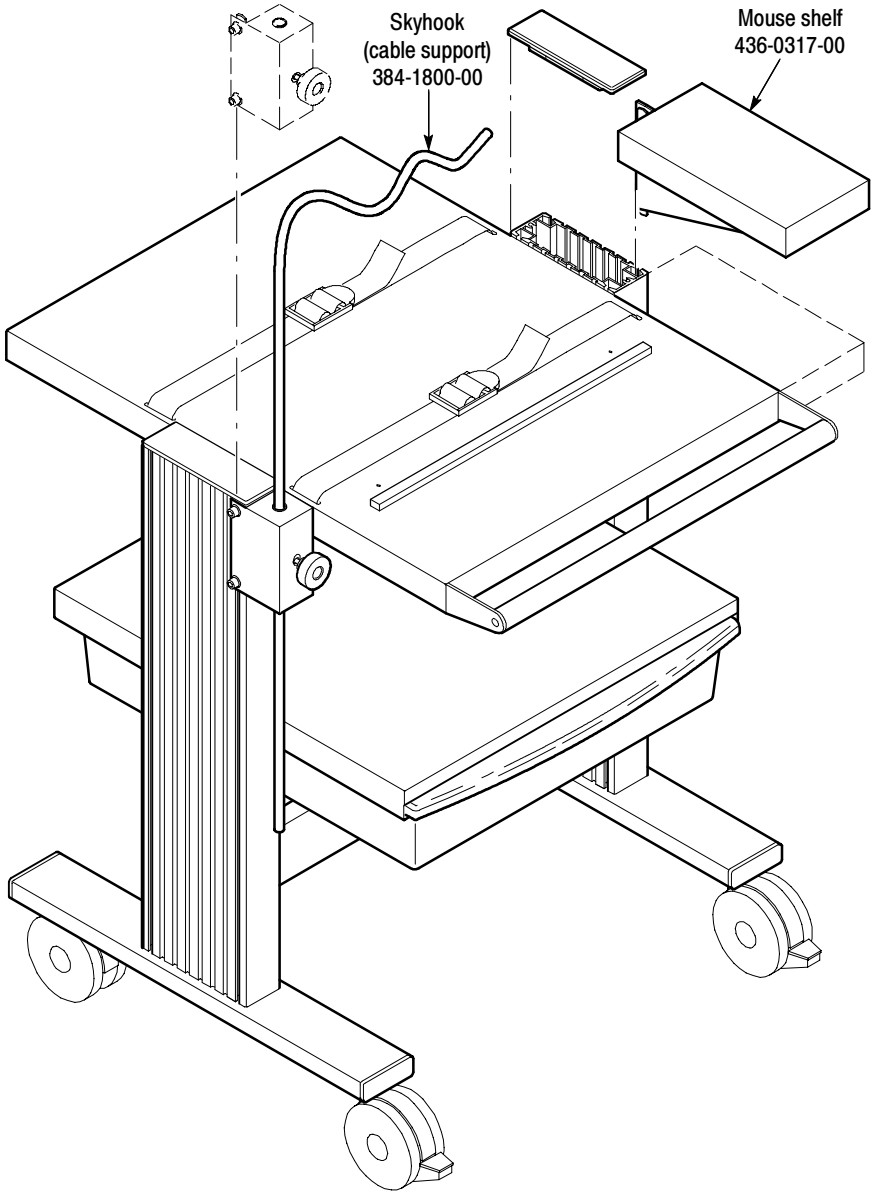

Figure 2: Replacing the end cap (K420 cart shown).
4. Replace the end cap as shown in Figure 2.